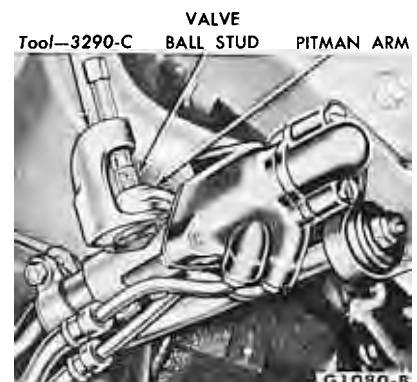

FIG. 9—Control Valve Ball Stud Removal
5. Using the tool shown in Fig. 9, remove the ball stud from the sector shaft arm.